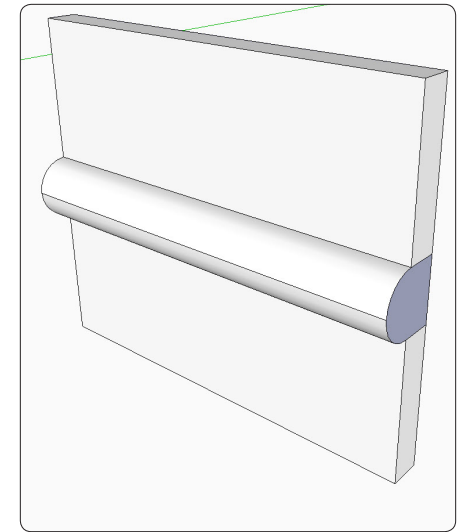

Figure 106. Remove half the thickness of the hinge plate.
Step 4 Use the Eraser Tool to delete half the thickness of the plate, as shown in Figure 106.